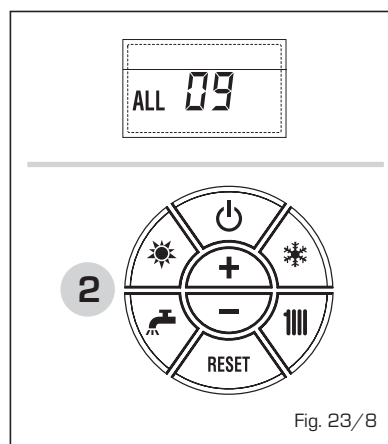

Fig. 23/8
- **ANOMALÍA SONTA AUXILIAR "AL 10" (fig. 23/9)**